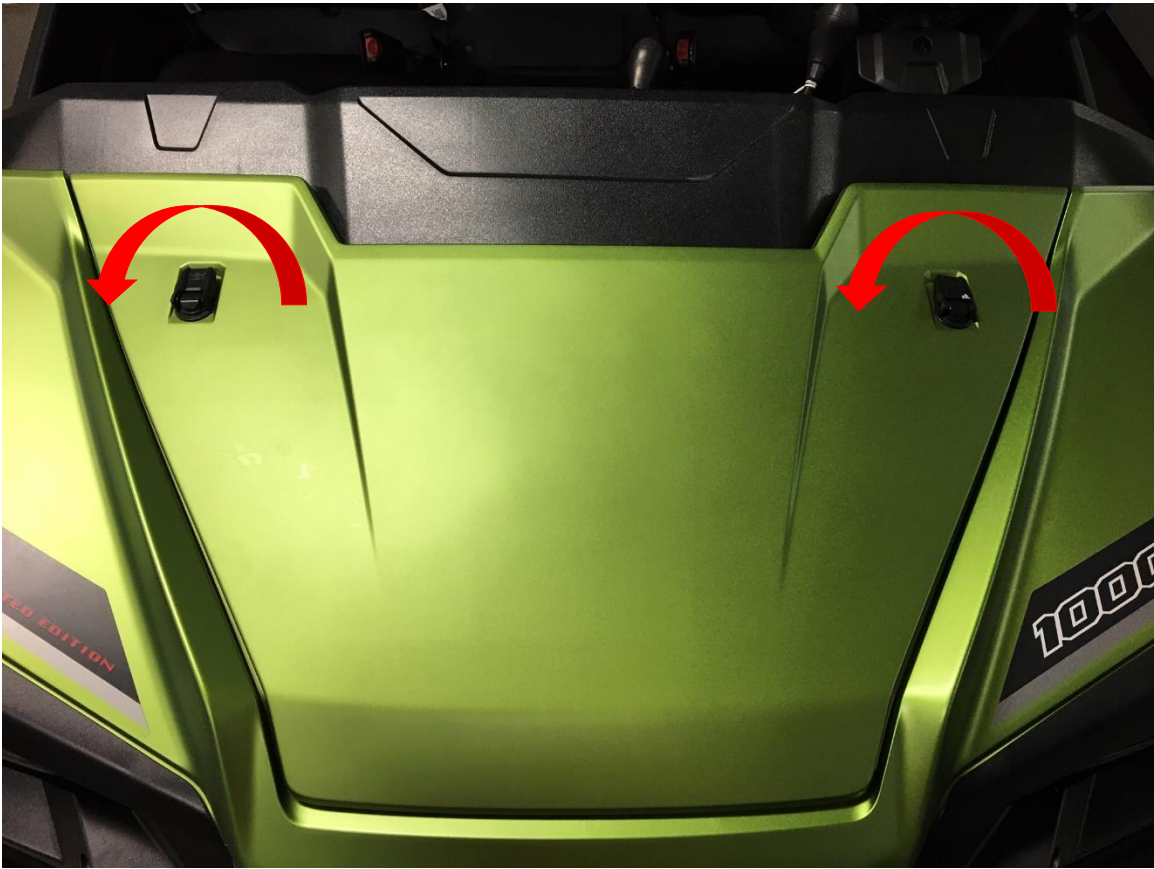

Figure 7: Remove the radiator hood access panel.
5. Remove the radiator hood access panel from the front of the vehicle by lifting and rotating the 1/4 turn clips, lifting the hood, and sliding it towards the front of the vehicle. See Figure 7.